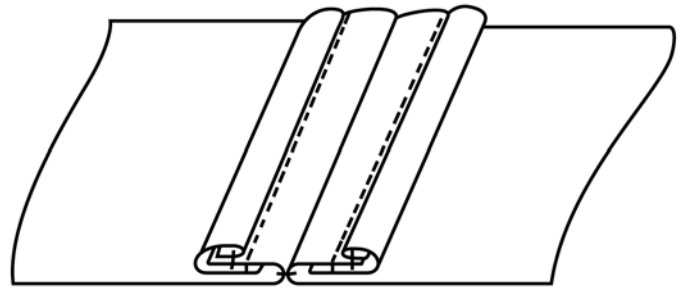

FIG. 8 Hong Kong Seam Finish from Back Side of Fabric
**Hong Kong seam finish, *n***—*in home sewing*, a seam finish in which a binding fabric is used to encase the cut edge of each seam allowance separately and in which the binding fabric has one cut edge enclosed and the other cut edge exposed. (Compare **bound seam finish**.) (See Fig. 8.)